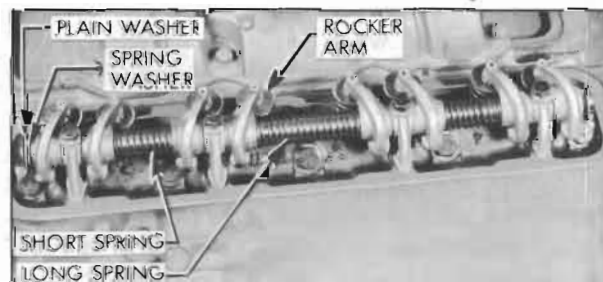

Figure 2-19—Rocker Arm and Shaft Assembly
3. Assemble springs, rocker arms and brackets on shaft as shown in figure 2-19. Note